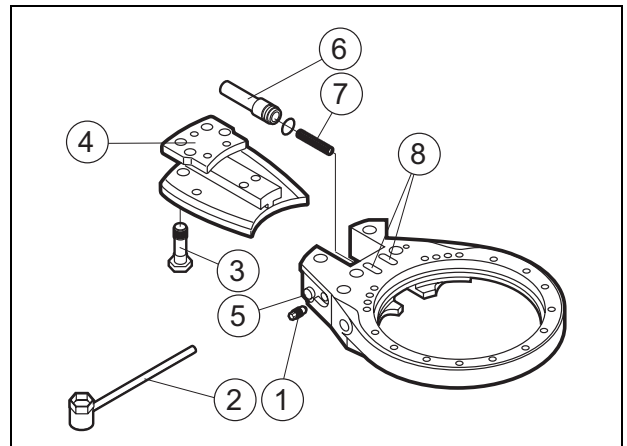

Fig. 40 Replacing saw bar
3. Loosen off the guide screws (3), W=16 mm, and pull out the saw bar. *See Fig. 40.*
4. Replace the saw bar and tighten the guide screws (3). For Oregon saw bar use guide screw #2, P/N 0704048 and for Sandvik-Windsor use #1, P/N 0704049.